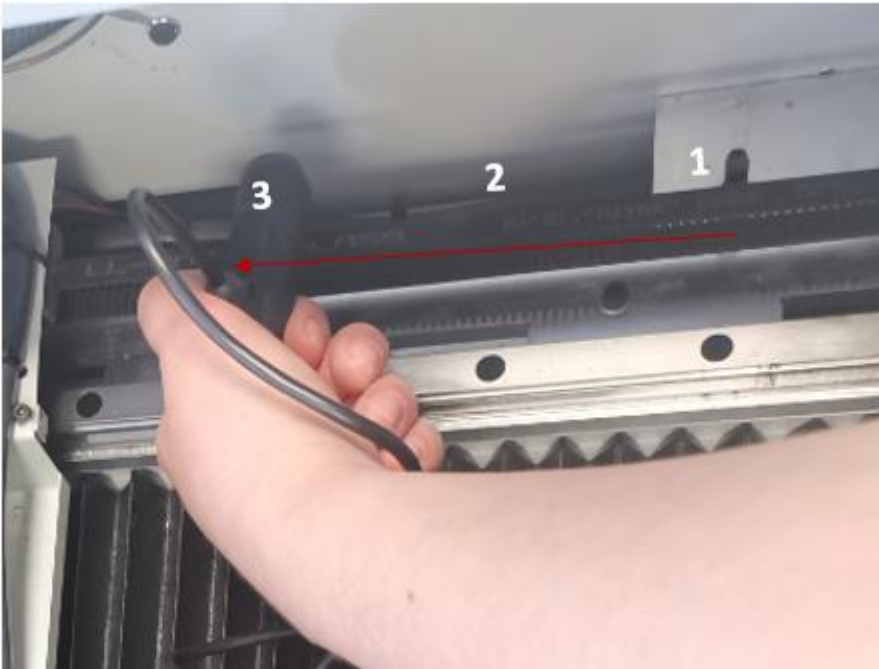

Fig.44 Measurement location of the timing belt tension on the X2 axis
4. Measuring the timing belt tension on the X2 axis (Fig. 44):